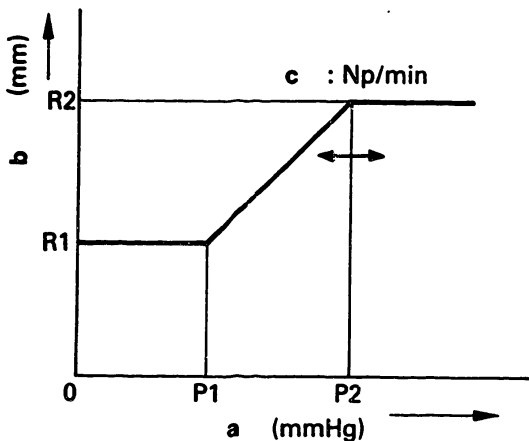

Fig. 110
- 3) Increase the boost pressure and ensure it reaches "P2" mmHg when the control rack is at "R2" mm. (Fig. 110)